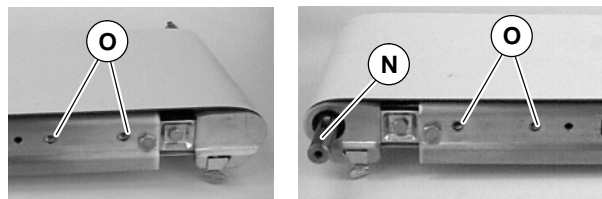

Figure 3
2. Remove screws (O of Figure 3) from both sides of conveyor.
3. Install square key (N of Figure 3) into drive shaft.